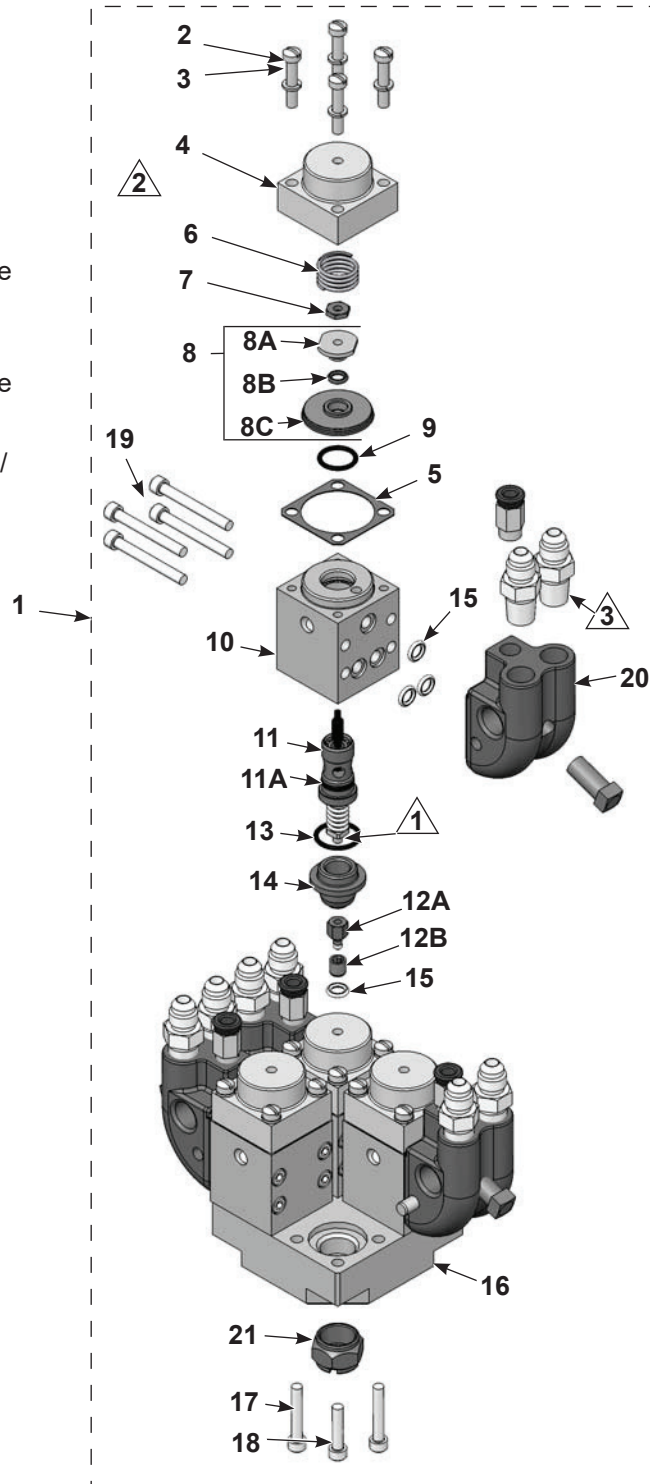

Figure 6 A7A Quattro Spray Gun Repair
1. See Figure 6. Flush the spray gun (1) with clean solvent or cleaning solution.
3. Remove the nozzle nut (22) and nozzle.
- a. Remove the air cylinder (4), gasket (5), and compression spring (6).
- b. Hold the packing cartridge (11) stem with a wrench and remove the lock nut (7).
- c. Unscrew the piston assembly (8) from the stem and separate the seal nut, O-ring and piston (8A, 8B, 8C).
- d. Remove the screws (17, 18), and the gun body (10) from the manifold (16).
- e. Push the packing cartridge (11) out of the body.
- g. Remove the large O-ring (13), seat retainer (14), seat (12B), and small O-ring (15) from the manifold.